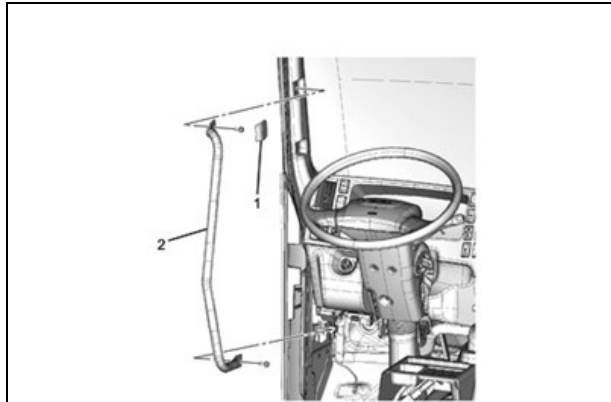

Figure 44
39. Install the assist handle to the front pillar (See Figure 44). Torque the mounting bolts. **Torque Specification: 19 N•m (14 lb•ft)**